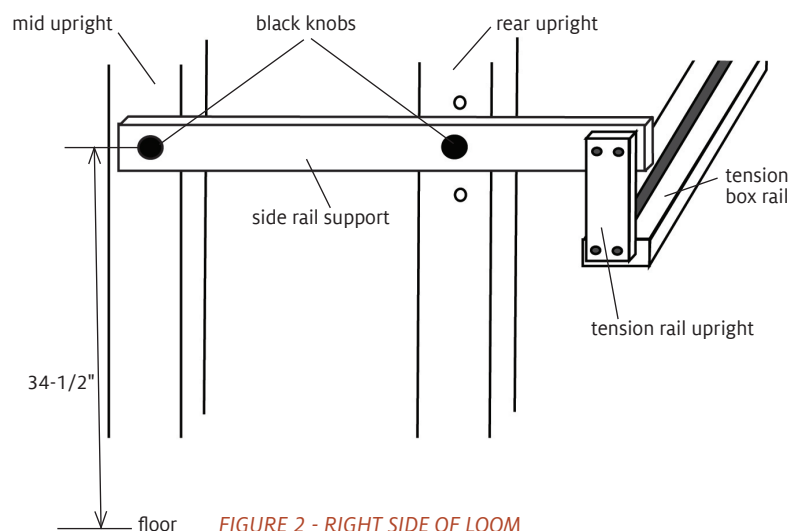

FIGURE 2 - RIGHT SIDE OF LOOM
- Attach the side rail supports with #12 x 1-3/4" screws. See figure 2.